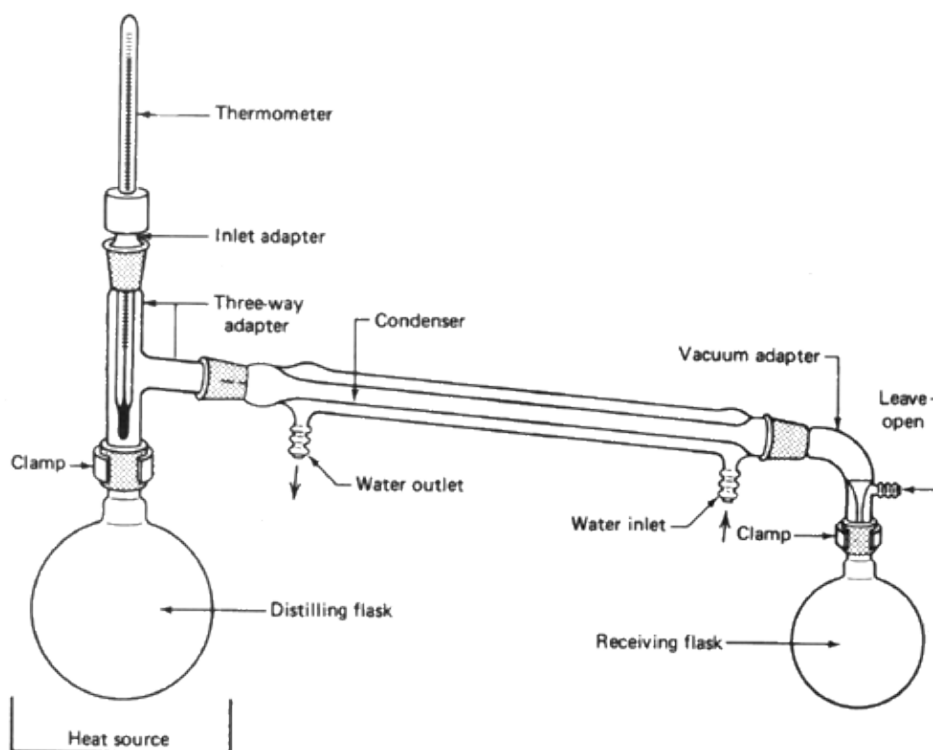

Fig 1.1: A distillation Kit
1. Assemble an apparatus as illustrated in Fig 1.1. A kit containing the necessary glassware can be obtained from your instructor. The glassware contains standard taper joints, which allow for quick assembly and disassembly. Before fitting the pieces together, apply a light coating of **grease** to each joint to prevent the joints from sticking.